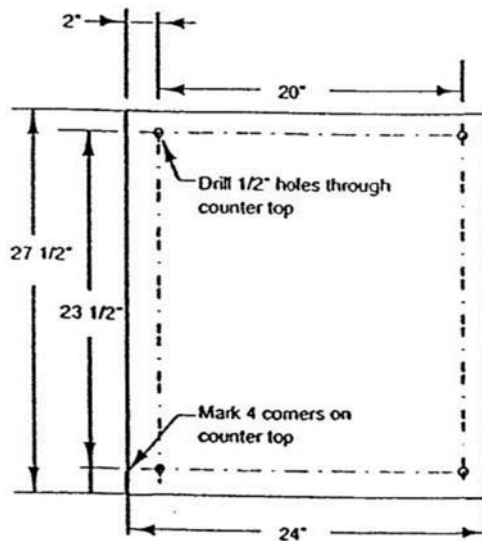

FIGURE 1
1. Place steamer in desired location with level counter top and mark four corners. Remove steamer and drill  $\frac{1}{2}$ " holes as indicated in Figure 1.